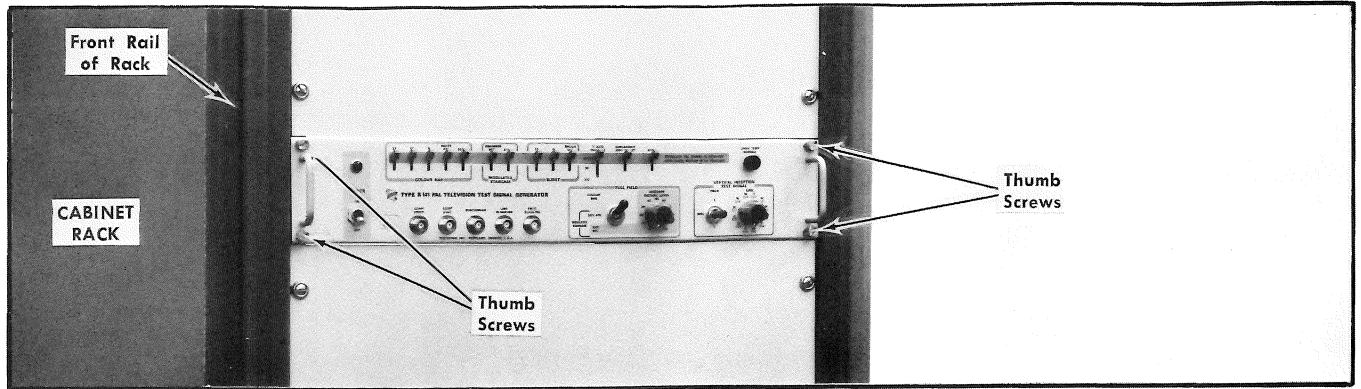
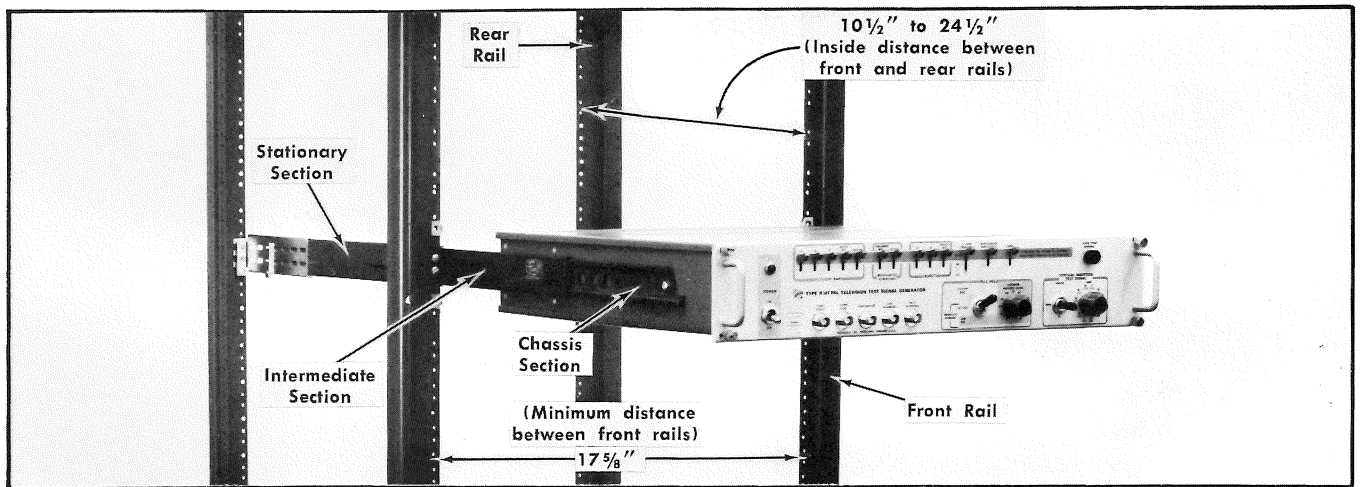
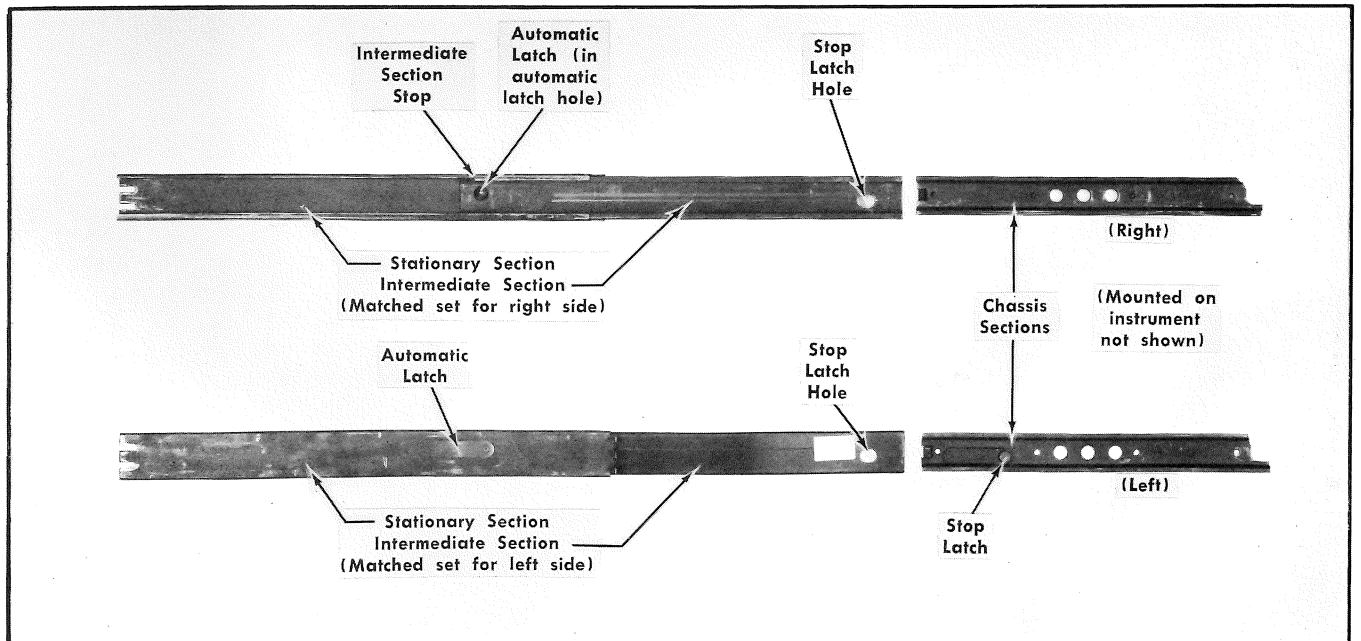

Fig. 9-1. The Type R141A installed in a cabinet type rack.
Fig. 9-2. The Type R141A shown in the fully extended position. The cabinet rack sides have been removed from the rack to show mounting details.
Fig. 9-3. Illustration showing the 1 3/4-inch wide slide-out track assemblies.
#### Mounting Method (Figs. 9-1, 9-2, 9-5 and 9-6)
Fig. 9-1 shows the instrument installed in a cabinet type rack with 1 $\frac{3}{4}$ -inch wide slide-out tracks for a non-tilt installation. The instrument is secured into the rack by means of four captive thumb screws. When the thumb screws on the front panel are loosened, the instrument can be pulled out of the rack like a drawer to its fully extended position (see Fig. 9-2). This position permits many routine maintenance functions to be performed without completely removing the instrument from the rack.
**Width**—A standard 19-inch rack may be used. The dimension or opening between the front rails must be at least 17 $\frac{5}{8}$  inches (see Fig. 9-2) for a cabinet rack in which the front lip of the stationary section is mounted behind an untapped front rail as shown in the right-hand illustration of Fig. 9-6. This dimension allows room on each side of the instrument for the slide-out tracks to operate so the instrument can move freely in and out of the rack.
**General Information**—The slide-out tracks for the instrument consist of two assemblies, one for the left side of the instrument and one for the right side. Each assembly consists of three sections as illustrated in Fig. 9-3. The stationary section attaches to the front and rear rails of the rack with inside dimensions as indicated in Fig. 9-2; the chassis section attaches to the instrument and is installed at the factory; the intermediate section fits between the other two sections to allow the instrument to be fully extended out of the rack.
The stationary and intermediate sections for both sides of the rack are shipped as a matched set and should not be separated. The matched sets for both sides including hardware are marked 351-0195-00 on the package. To identify the assemblies, note that the automatic latch and intermediate section stop are located near the top of the matched sets when they are properly mated to the chassis sections as shown in Fig. 9-3.